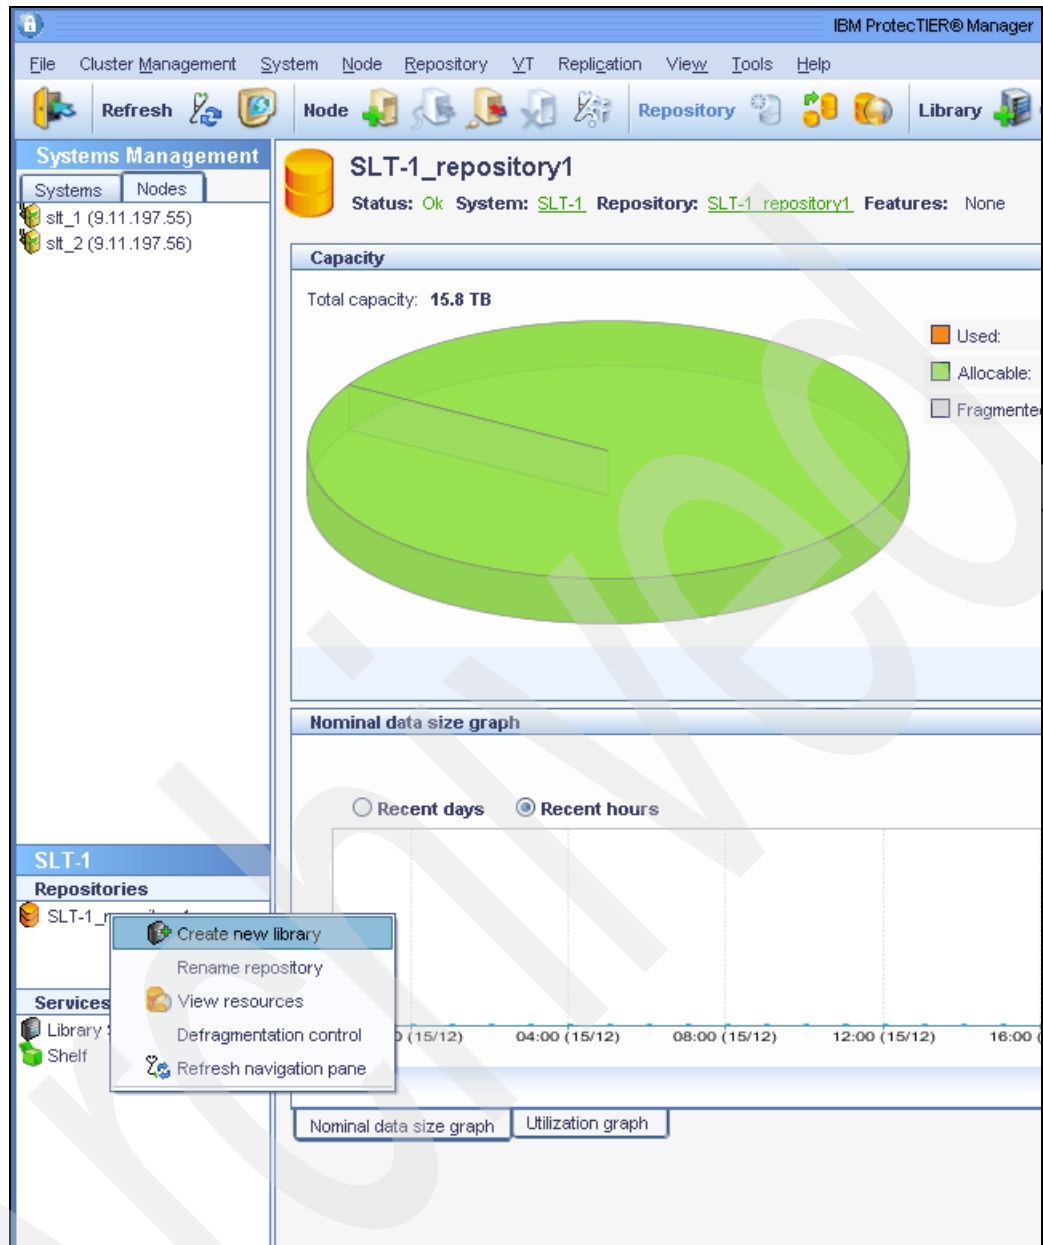

Figure 8-35 ProtecTIER Manager “Disable defragmentation”
1. Select **Repository** → **Defragmentation control** (see Figure 8-35 on page 220).